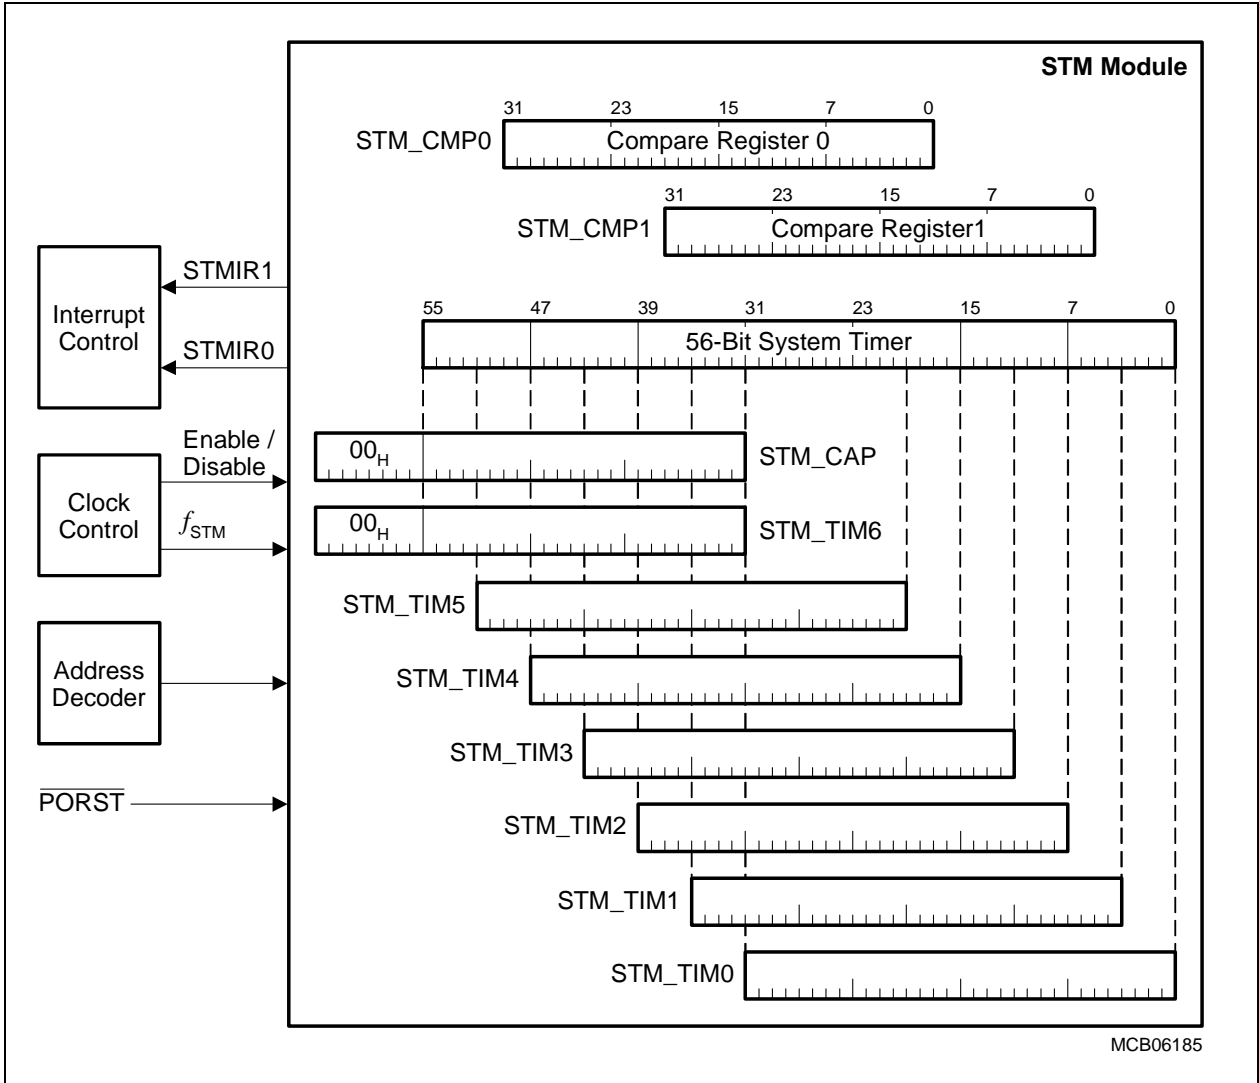

Figure 3-12 General Block Diagram of the STM Module Registers
**Figure 3-12** shows an overview on the System Timer with the options for reading parts of the STM contents.